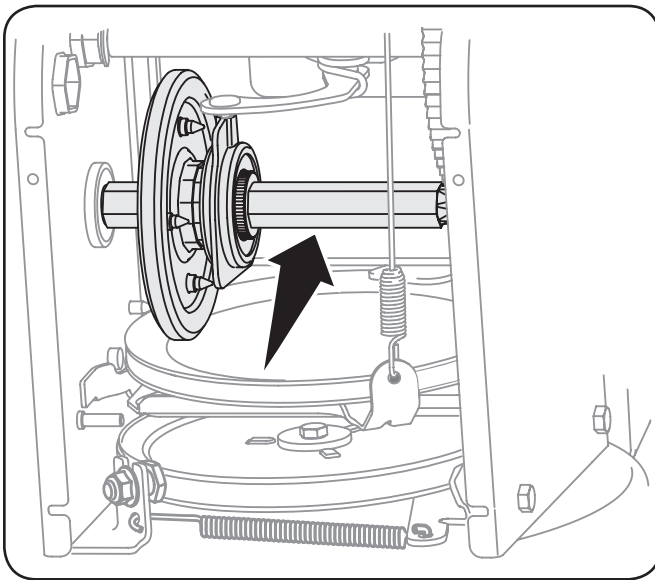

Figure 6-4
4. Apply a light coating of Bostik Regular Grade Never-Seez® to the hex shaft. See Figure 6-4.